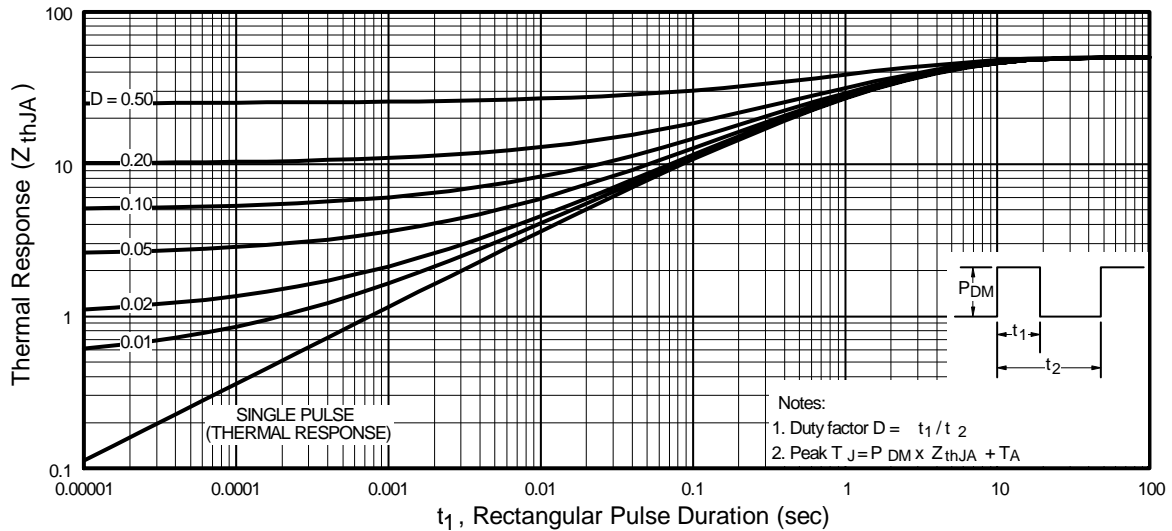

Fig 10. Maximum Effective Transient Thermal Impedance, Junction-to-Ambient
- ① Repetitive rating; pulse width limited by max. junction temperature. (See fig. 10)
- ② N-Channel I_{SD} ≤ 2.4A, di/dt ≤ 73A/μs, V_{DD} ≤ V_{(BR)DSS}, T_J ≤ 150°C